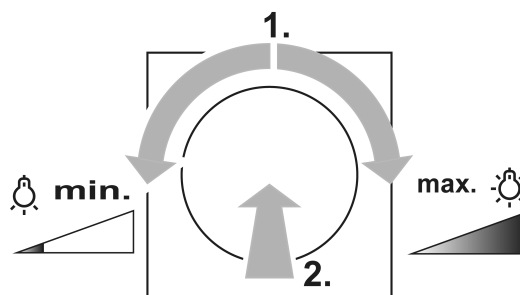

Figure 2: Switching on the light at minimum or maximum brightness
- Turn the setting knob by a quarter turn, then press the setting knob briefly: Light switches on at minimum brightness or maximum brightness (Figure 2).